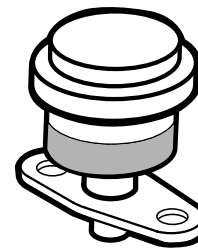

Figure 34
Service the primary air cleaner filter only when the service indicator (Figure 34) requires it. Changing the air filter before it is necessary only increases the chance of dirt entering the engine when the filter is removed.
1. Check the filter-blockage indicator. If the indicator is red, replace the air filter (Figure 34).